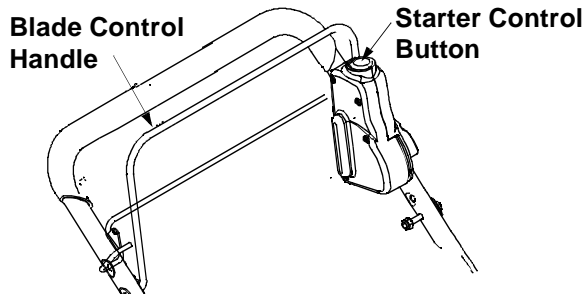

Figure 12
3. Turn safety key 1/4 turn clockwise to RUN position.
6. Using your left hand, pull the blade control handle all the way toward the upper handle. See Figure 12. Starter will de-energize and engine will start. (NOTE: If engine does not start, release blade control handle and follow steps 8, 9, 10, 11 and 12 in the "First Time Starting Engine" instructions.)